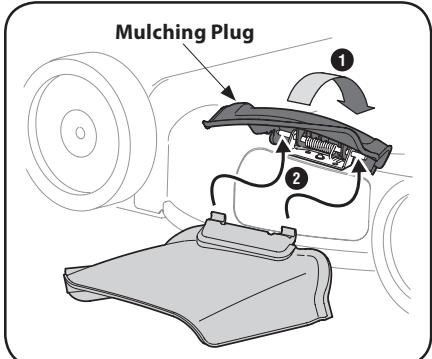

Figure 2-9
- On the side of the mower, lift the mulch plug. See Figure 2-9.